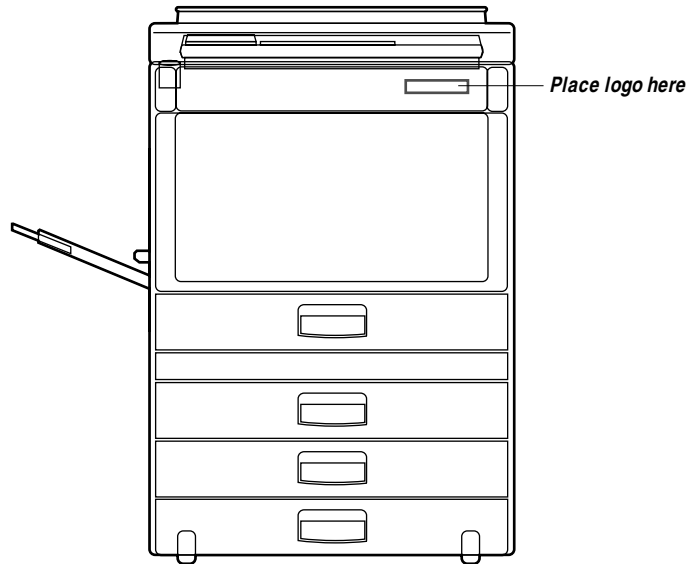

Figure 2-25 Installing the logo decal on the copier
6. *Peel the adhesive backing off the Fiery driven and Adobe PostScript logo decal and install it on the front of the copier (see Figure 2-25).*